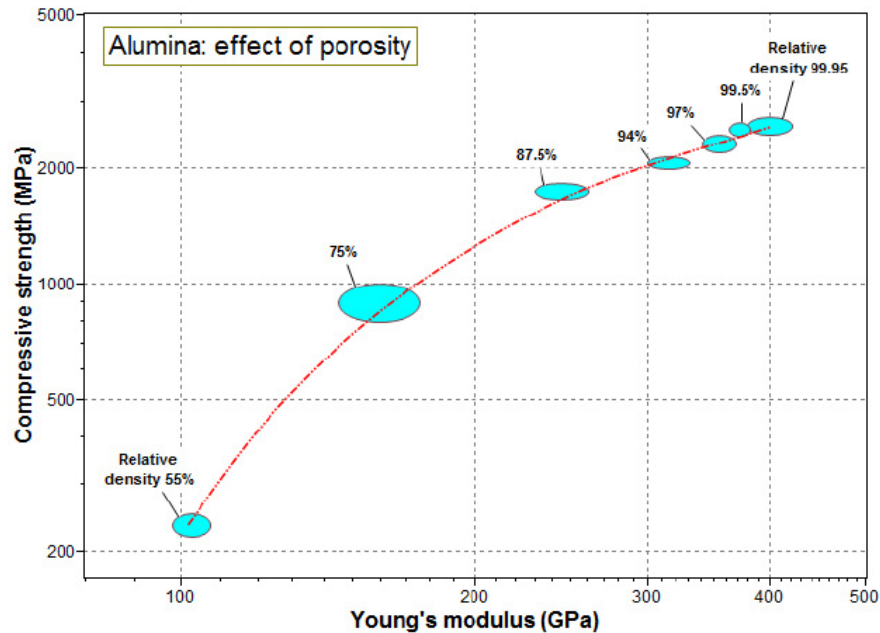

Figure 12. The effect of residual porosity on the modulus and compressive strength of alumina.
- Alumina with relative densities ranging from 55% to 99.5% (porosities between 0.05% and 45%). What can you do with it? The chart of Figure 12 shows how the Yield strength and Young's modulus of alumina fall as the relative density ($1 - \text{porosity}$) decreases. Almost all the mechanical, thermal and electrical properties of alumina depend on relative density. The set of records allow this to be explored.